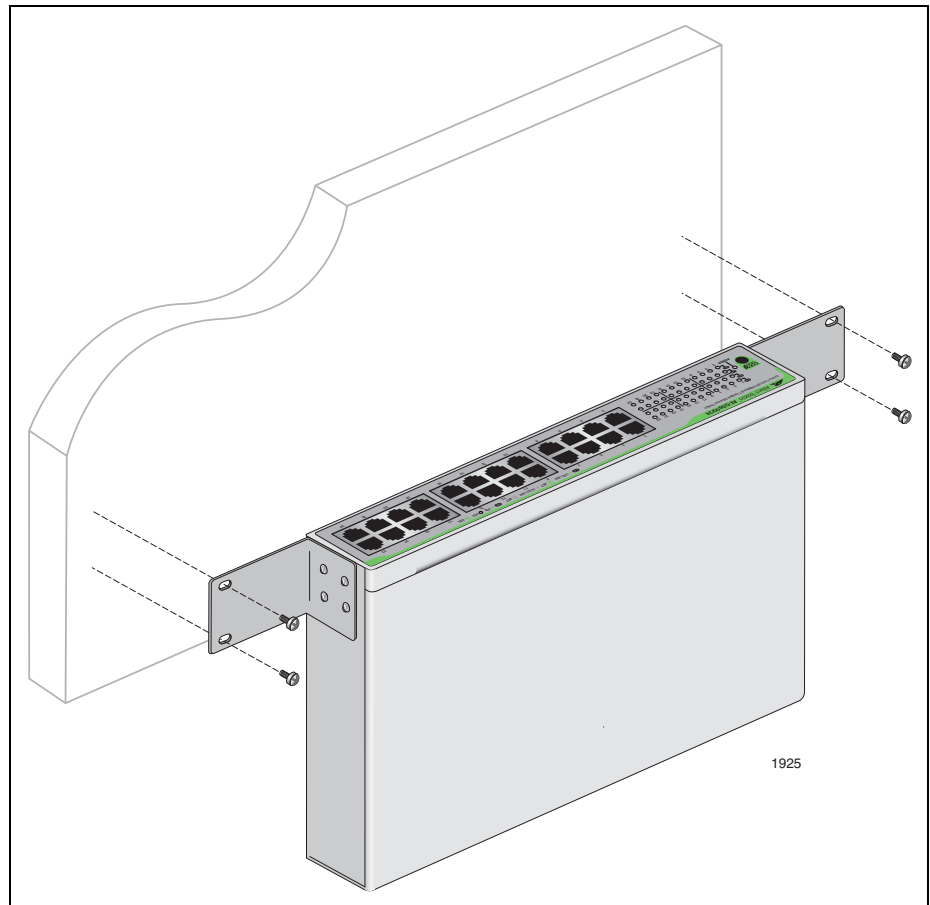

Figure 8. Attaching the switch to the wall
3. Place the switch on the wall. Then mount the switch using the plastic anchors and T3.5\*16 screws which are shipped with the product. See Figure 8.
The switch must be mounted with the AC Power Connector facing down to conform with UL requirements as shown in Figure 8.